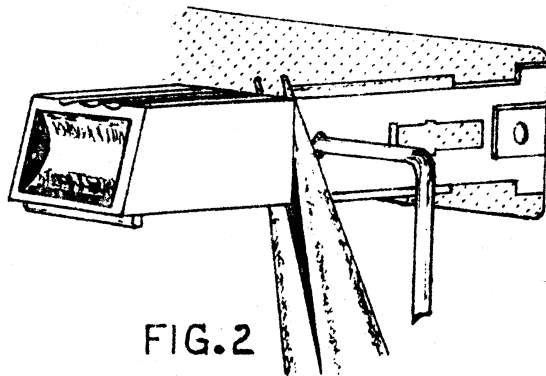

FIG.2
- F. Slip metal rod through the hole as shown and insert long nose pliers between rod and inside edge of knob (Figure 2.)